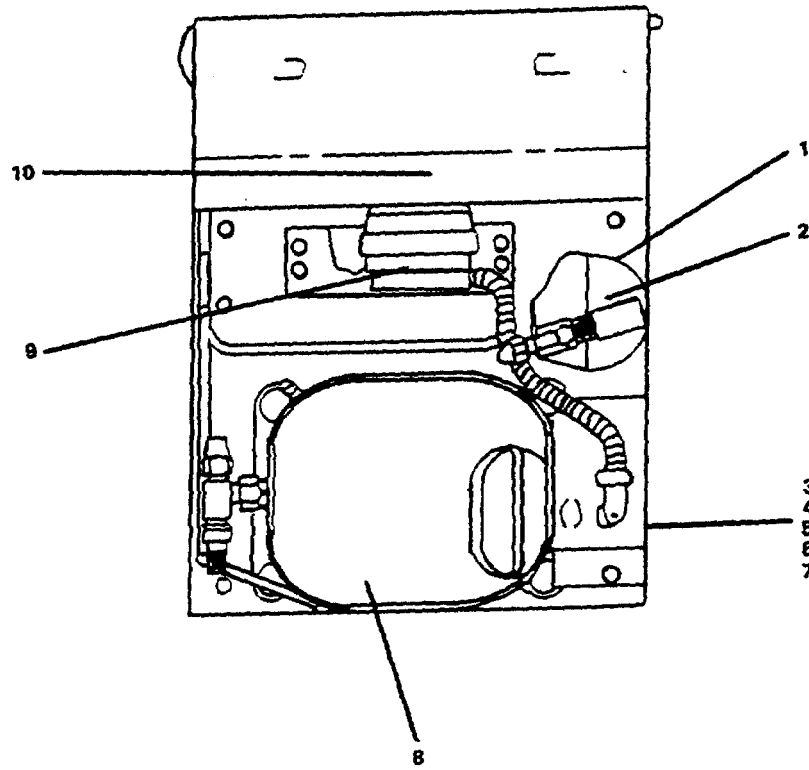

FIGURE 3-78. Repair Refrigeration Condenser.
- d. Install light switch (10).
- e. Install light socket (3).
- f. Install lamp shield (2).
- g. Install pilaster (6).
- h. Install shelf (4).
- i. Install pilaster clip (5).
- j. Install access door hinge (8).
- k. Install latch assembly (9).
- l. Install thermometer (1).
**3-80. Repair F-20 Mechanical Freezer - Refrigeration Condenser. (Figure 3-78)**